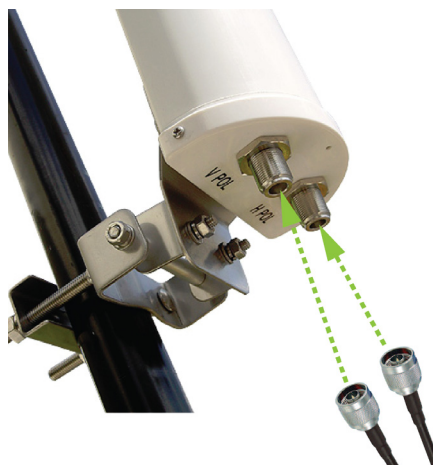

Figure 30. Installing Antennas to the Access Point
3. Connect cables to the connectors on the back panel of the antenna. Refer to Figure 30.